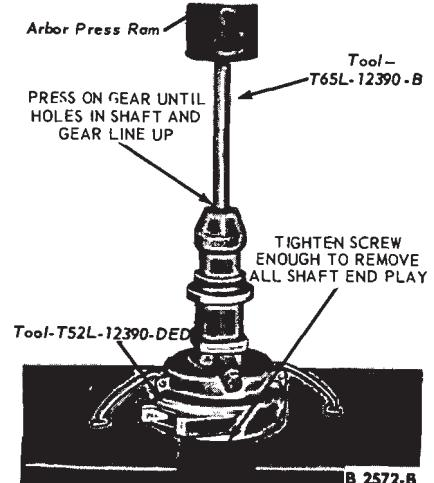

FIG. 19—Original Shaft and Gear Installation—6-Cylinder Engine
5. Install the assembly in a press. Press the gear on the shaft (Fig. 19).